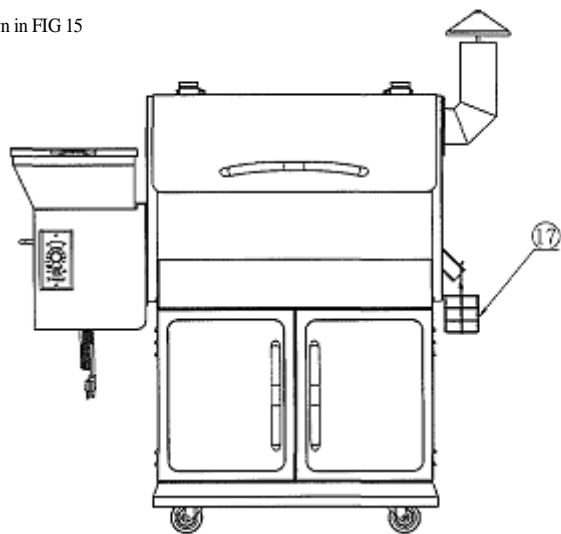

FIG15
Locate the Grease Drain Tube which is on the right side of the chamber, then hang the Grease Basket (17) on the hook. As shown in FIG 15